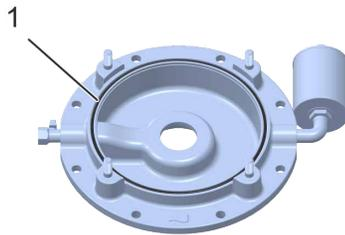

Fig. 79 Removing the O-ring
38. Remove the O-ring (Fig. 79/1) and place it to one side for later assembly.